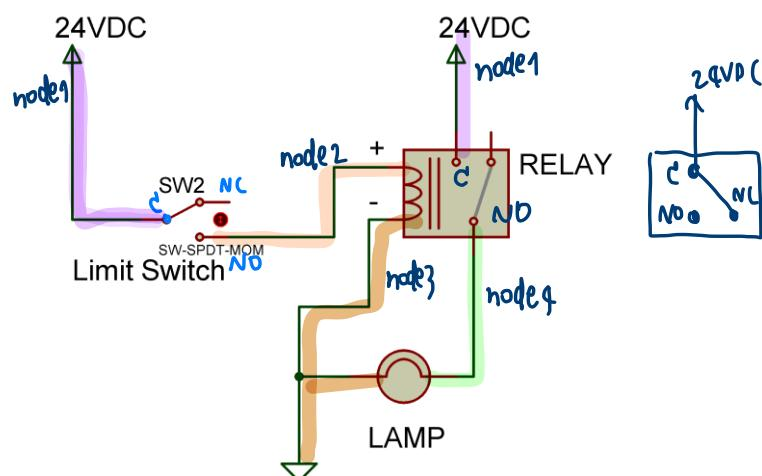

Figure 3: Circuit diagram of limit switch circuit
1. Make a circuit according to the circuit diagram shown in Figure 3.